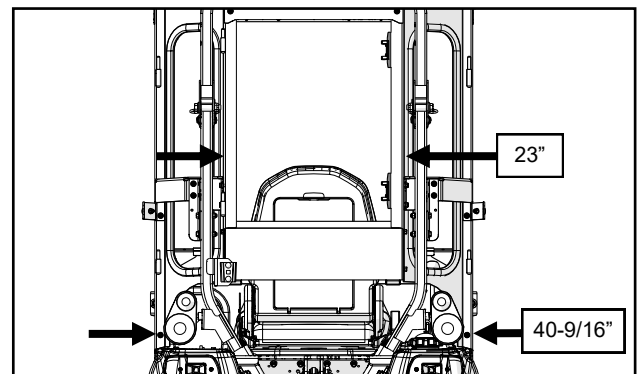

Fig. 14.2 (Measure Rear Legs Left to Right)
- 14.2** Adjust the bottom of the rear legs side to side to get the outer surfaces approximately centered on the vehicle and about 40-9/16" apart outside to outside. See figure 14.2.
- 14.3** Measure the distance between the outside of the rear flanges of the rear legs. Adjust the rear legs to get as close to 23" as possible at *both* the top and bottom of the flanges. See figure 14.2. Tighten the hardware securing the rear legs to the contours and ROPS brackets.